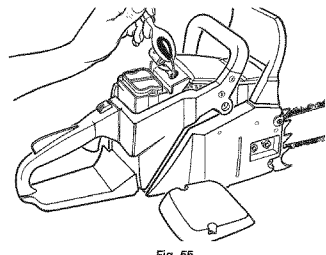

Fig. 55
4. Pour 1 teaspoon or clean 2-cycle oil into the combustion chamber (Fig. 55). Pull the starter rope slowly several times to coat the internal components.